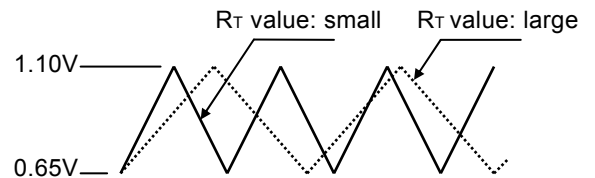

Fig.2
The voltage oscillates between approximately 0.65V and 1.10V in charging and discharging with almost the same gradients (Fig. 2). Your desired oscillation frequency can be determined by changing the gradient using the resistor (RT) connected to RT terminal. (Large RT: Low frequency, small RT: High frequency) The waveforms of oscillator cannot be observed from the outside because a terminal for this purpose is not provided.